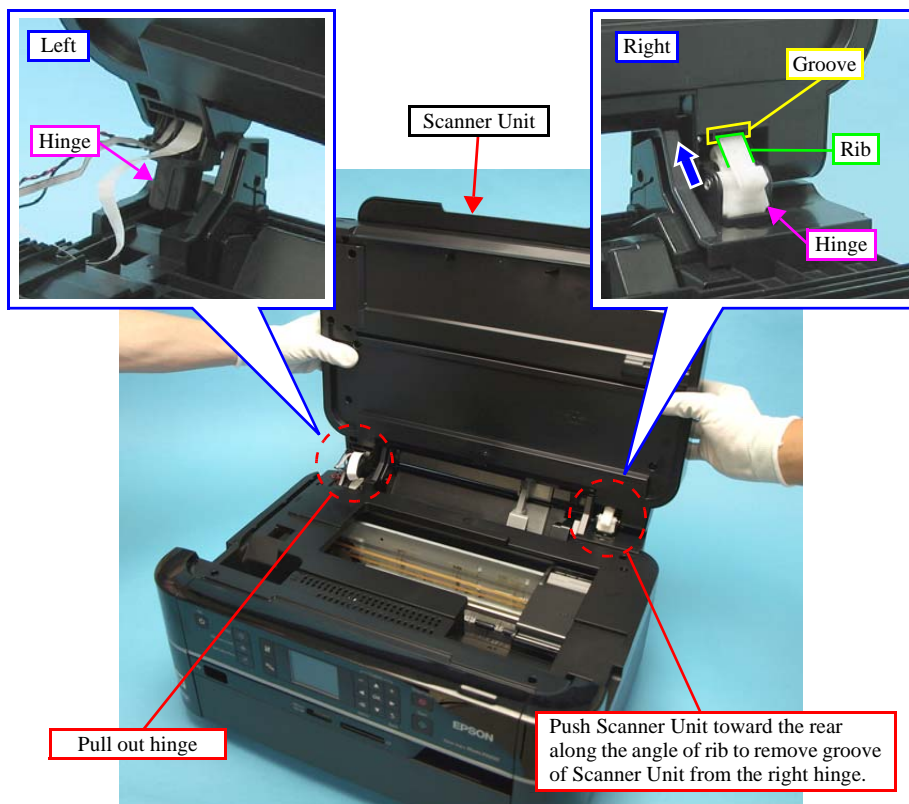

Figure 4-12. Removing the Upper Housing (2)
5. While keeping the Scanner Unit open at 45 degrees, push it in the direction of the arrow as shown in Fig. 4-12 to remove the Scanner Unit from the right hinge.